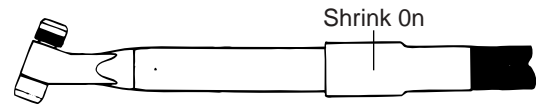

Figure 2-B
- 4) Slide the shrink tubing over the handle until about 1/2 on. With a heat gun shrink the tubing until it is snug on the handle and the leads (Fig. 2-B).
2.3. MACHINE TORCH INSTALLATION (Figure 2-C)